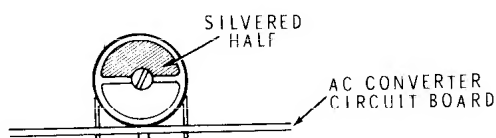

Figure 1-2
- () Adjust each of these trimmers so the silvered half of each plate is positioned as shown in Figure 1-2. This centers the capacity of each trimmer within its range.